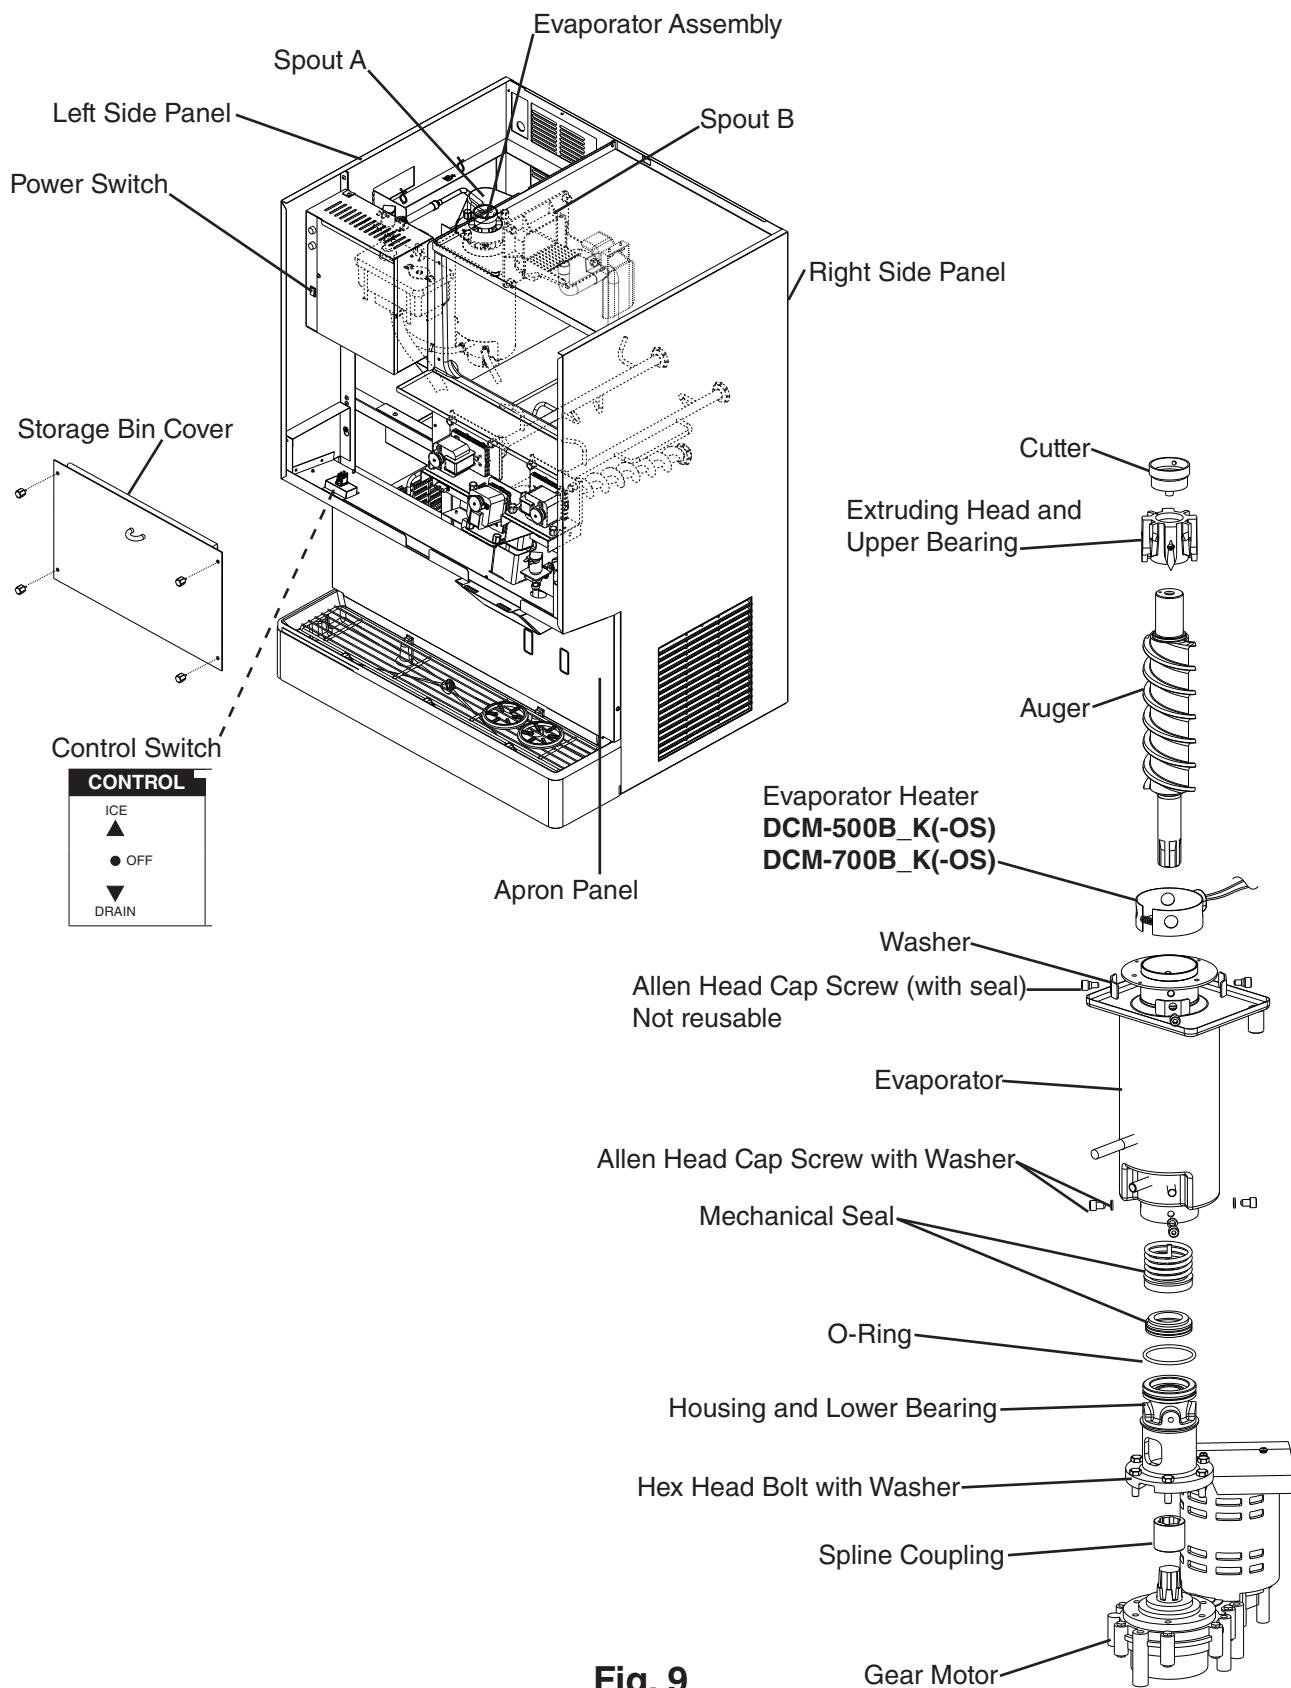

Fig. 9
- 2) Remove the storage bin cover. Remove spout B, then remove spout A and the cutter. See Fig. 9.
- 3) Remove the storage bin cover. Remove spout B, then remove spout A and the cutter. See Fig. 9. Remove the apron panel, then remove the left side panel.
- 3) Remove the storage bin cover. Remove spout B, then remove spout A. See Fig. 9.